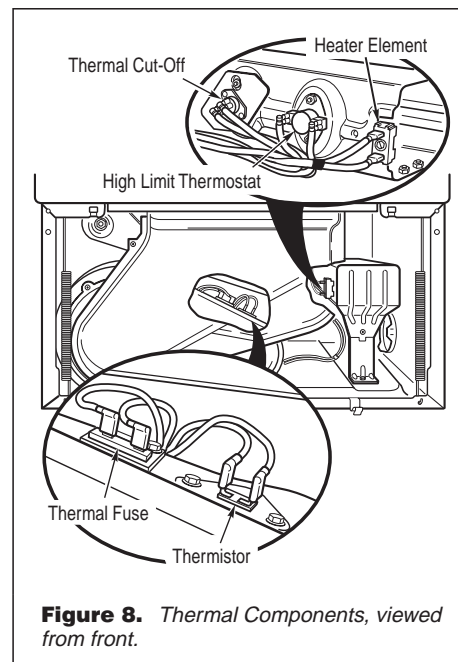

Figure 8. Thermal Components, viewed from front.
2. Remove the toe panel to access the thermal components. See figure 11, page 7. Locate the components using figure 8.
- Check wire connections at the machine control electronics and thermistor. See Accessing the Machine Control Electronics, page 7, and figure 8 for thermistor location.
- ➔ If wire connections are good, remove the two wires from the thermistor and replace the thermistor. See figure 8.
page 7, and figure 8 for thermal fuse location.
3. Using an ohmmeter, check the continuity across the thermal cut-off. See figure 8 for location.